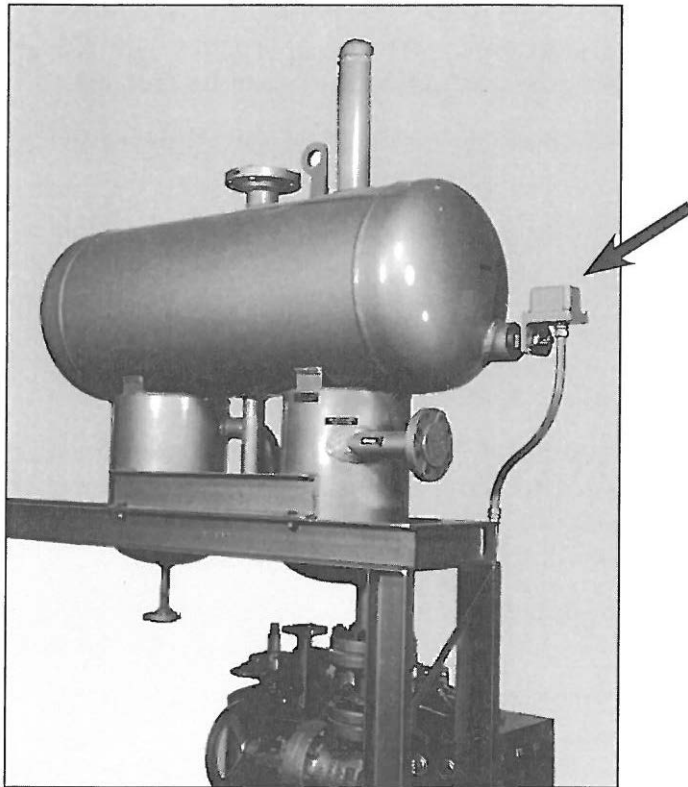

FIGURE 15 - LIQUID LEVEL SWITCH LOCATION
2. The location for the liquid level switch (Figure 15) is a 2-1/2" NPT connection on the same end of the tank as the inlet. The liquid level switch is supplied and shipped with the unit, and must be installed by the customer and then wired to the control panel.